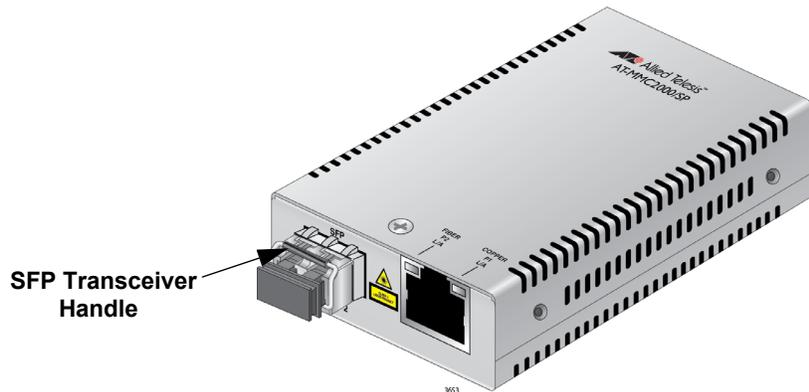

Figure 24. Positioning the SFP Handle in the Upright Position
- Verify that the handle on the transceiver is in the upright position, as shown in Figure 24. This secures the transceiver and prevents it from being dislodged from the slot.